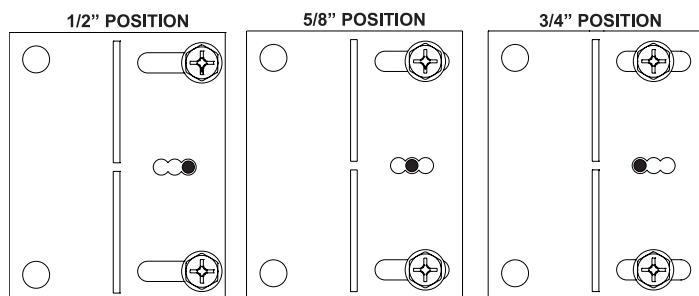

Figure 24
6. Measure from face of fireplace to face of drywall strip to determine final depth and adjust nailing flanges as shown in **Figure 24.**